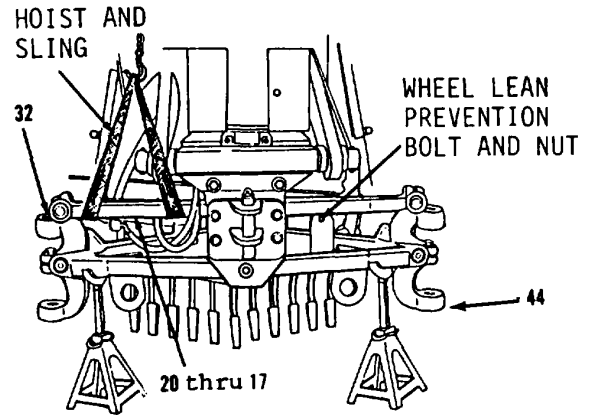
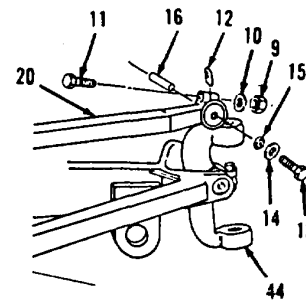

Figure 5-98.
Figure 5-97.
22. Fasten ratchet assembly to arms (44 and 32, Figure 5-98) and vehicle frame.
23. Attach hoist and sling to items 20 thru 17 as an assembly.
24. Position items 20 thru 17 as an assembly on arms (44 and 32).
26. Using ratchet assembly, align arms (44 and 32) with bar (20, Figure 5-97).
27. Install pin (16) on left, front of vehicle. Groove in pin (16) must align with opening in top of arm (44).
28. Install retainer (15), washer (14) and bolt (13). Use shim(s) between pin (16) and retainer (15) to give a 0.030 inch gap between bar (20) and retainer (15).
29. Install lock (12), bolt (11), washer (10) and nut (9). Tighten nut (9) to 185 ft-lb torque.